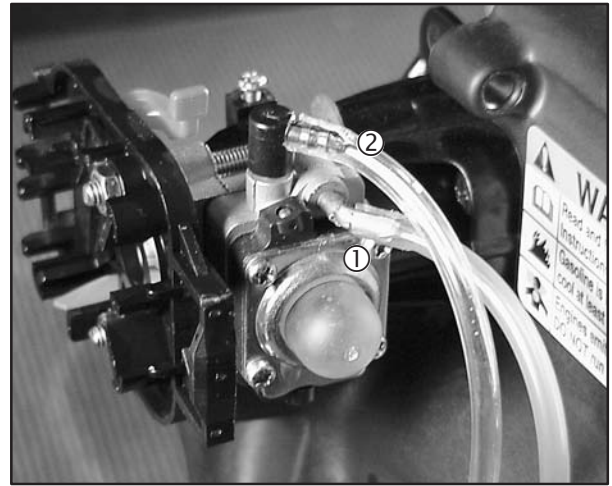

Fig. 36
6. Install fuel supply line (1) and fuel return line (2), Fig. 36.